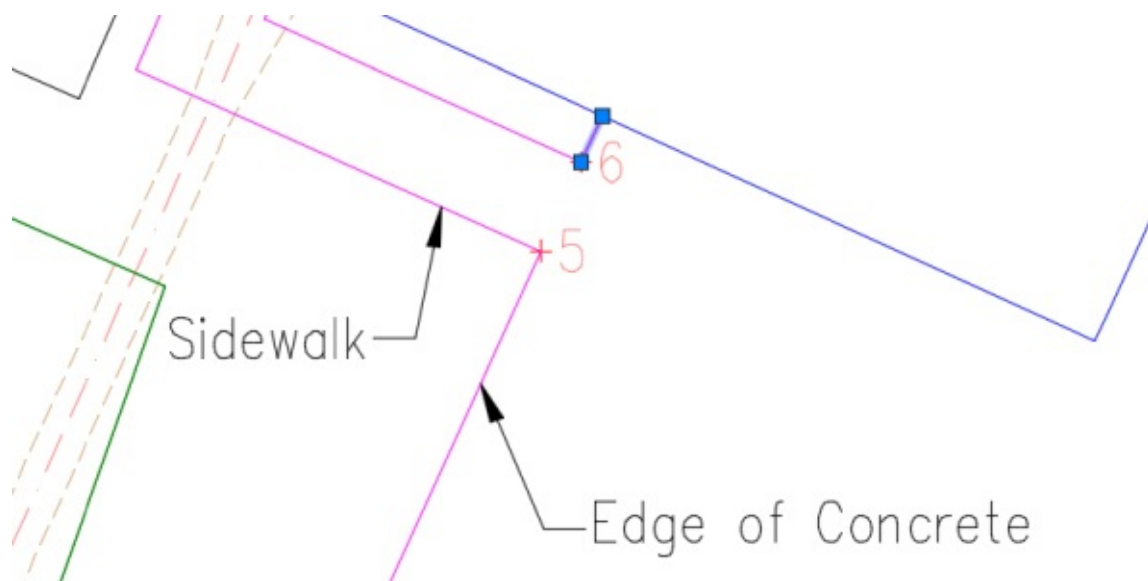

Figure 14.14 The feature line after executing the Break command
8. At the Specify second break point: prompt, using a Node Osnap, select the node of point #6, leaving a gap, as shown in Figure 14.14.